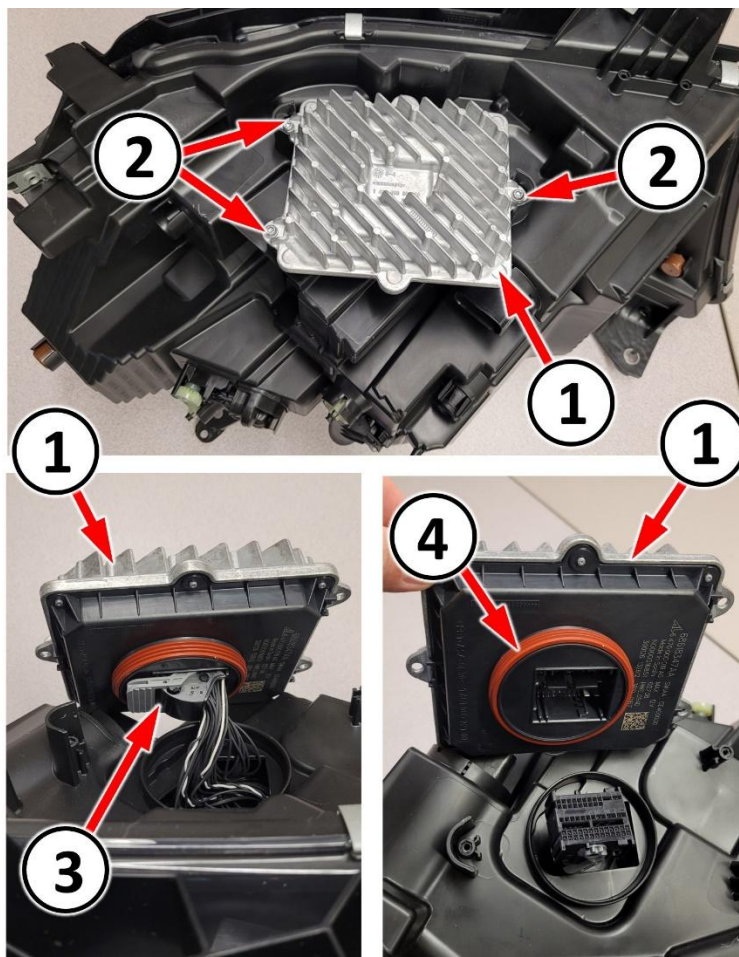

Figure C15 – Headlamp Module
21. Transfer the module to the **NEW** headlamp assembly (Figure C15).
- a. Remove the three screws and release the module from the lamp (Figure C15).
- b. Rotate the electrical connector lock to remove the electrical connector (Figure C15).
- d. Connect the electrical connector rotating the connector lock into the locked position (Figure C15).
- e. Install the module to the lamp making sure the seal is seated properly not pinched or rolled over (Figure C15).
- f. Install the three screws and tighten securely (Figure C15).